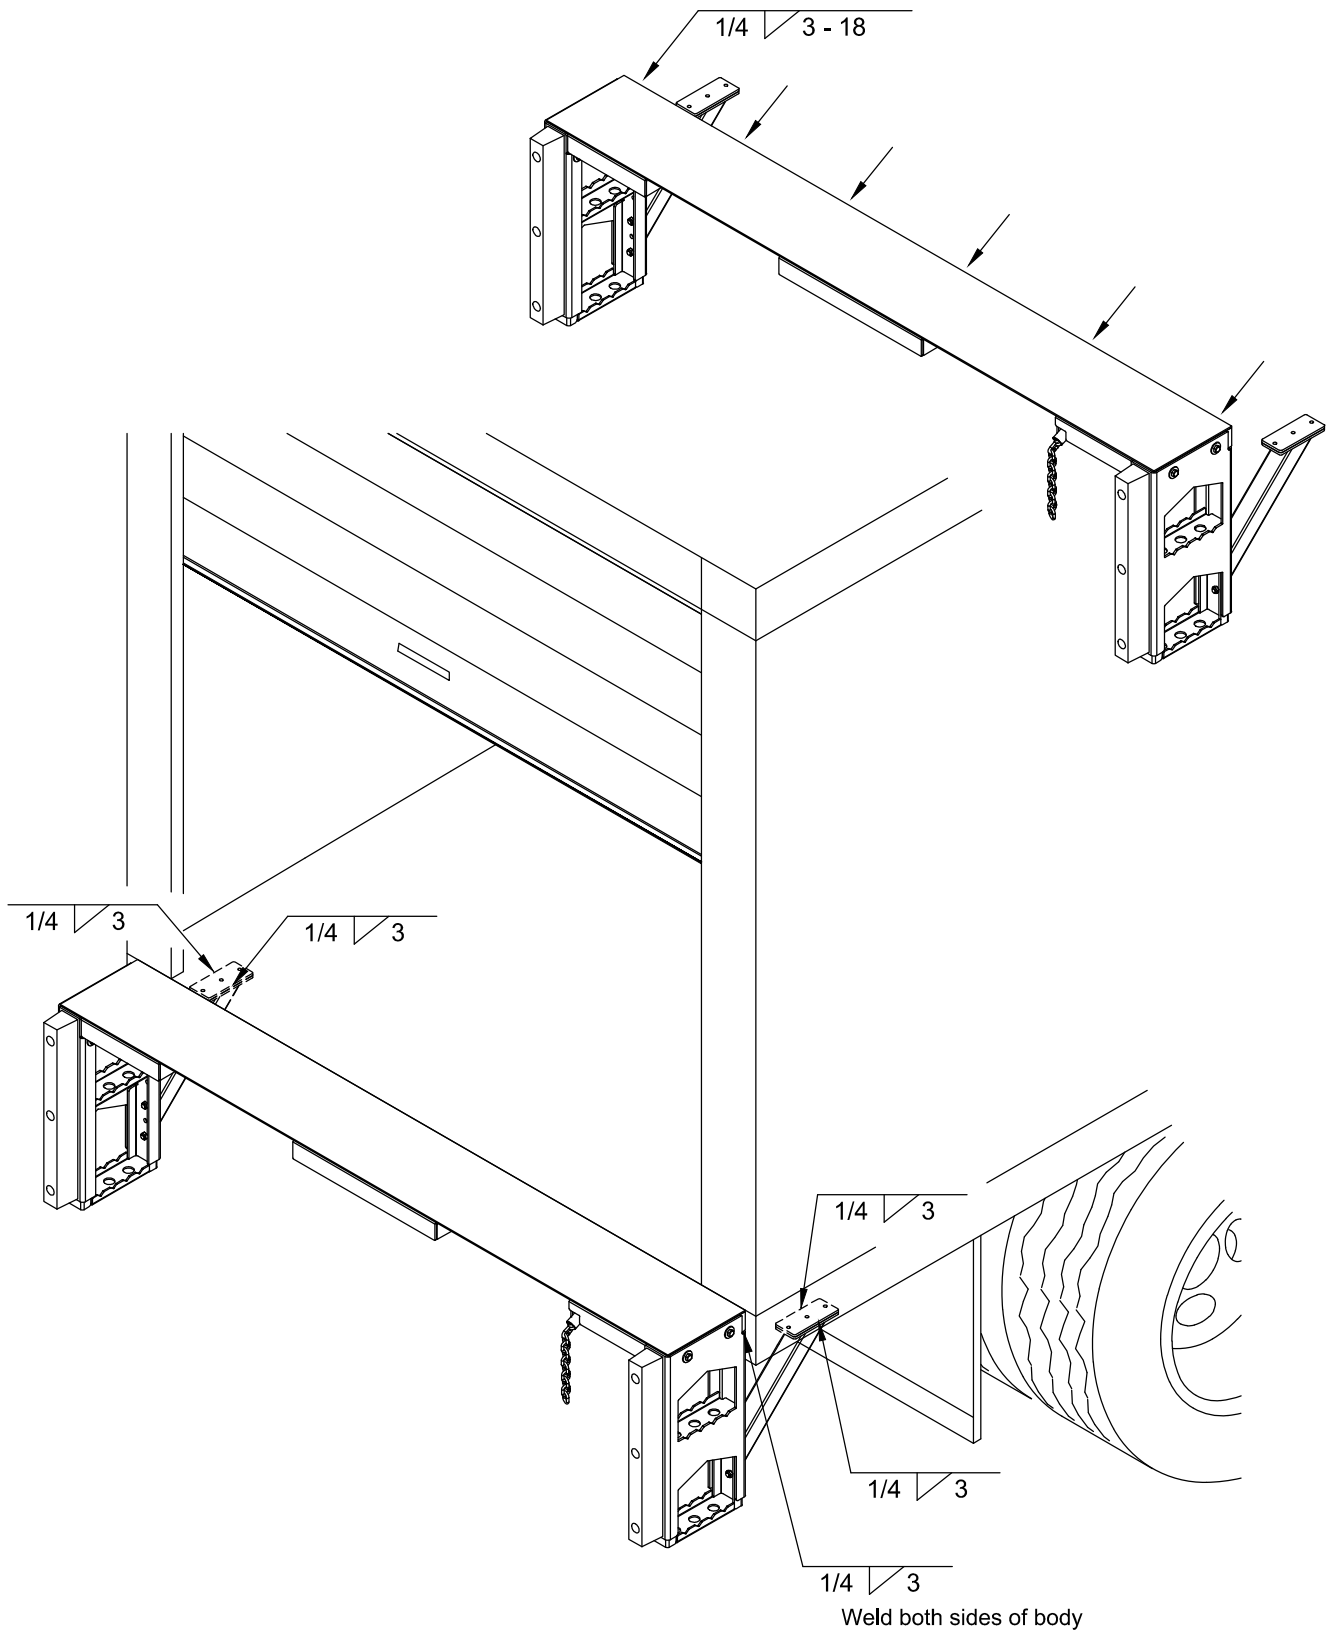

Figure 16: Bed Extension - Finish Weld Locations
3. **Finish Weld** bed extension with 3" long 1/4" fillet welds every 18" across width (Figure 16).
4. **Weld** bed extension braces into position (Figure 16) .